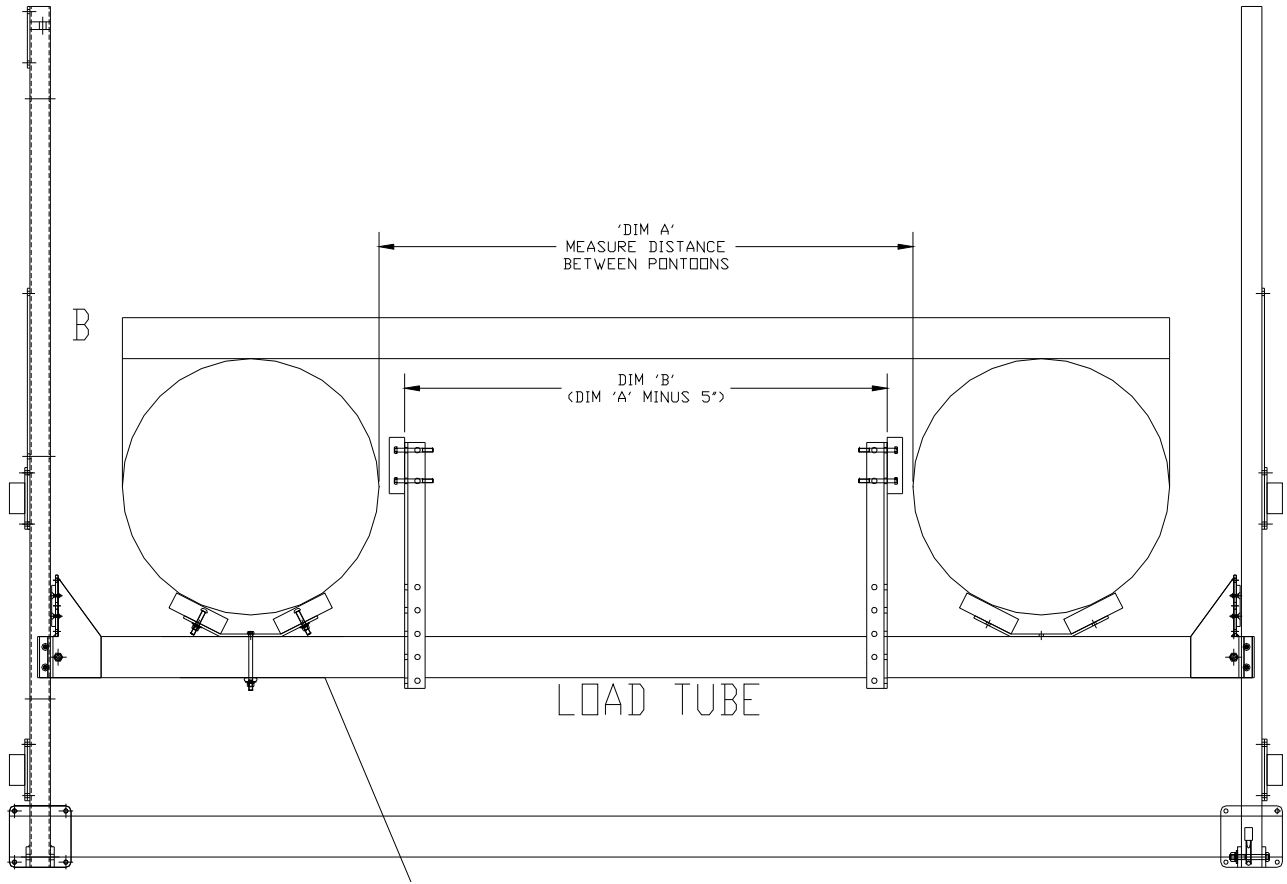

Figure 2-5.
3. **Refer to Figure 2-5.** Measure the distance between the pontoons to determine dimension 'A'.